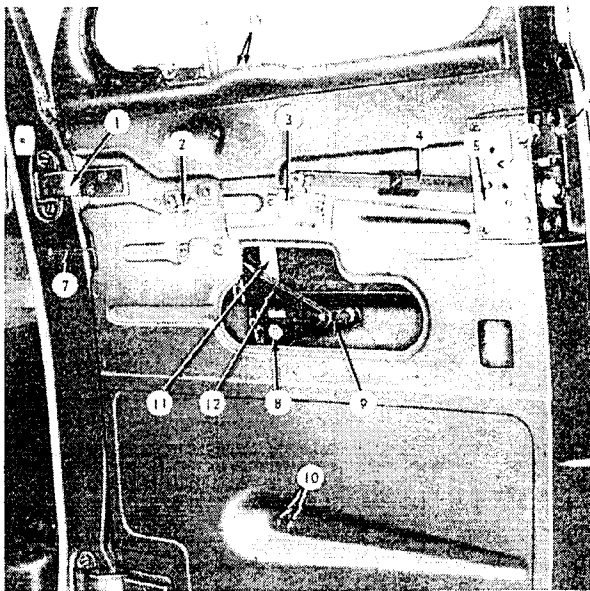
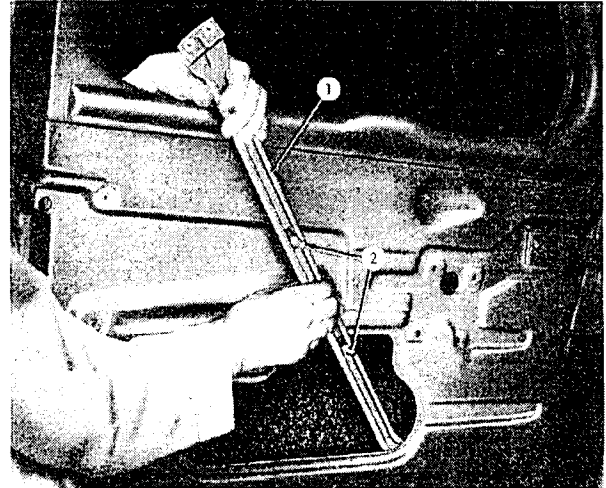

FIG. 26
FIG. 27
Remove the four screws holding the window guide (11, Fig. 26) to the door panel. Two screws and star washers (10) are located below the trim panel and the other two screws (13) are just below the inner edge of the window opening. Then remove the guide (see Fig. 27).